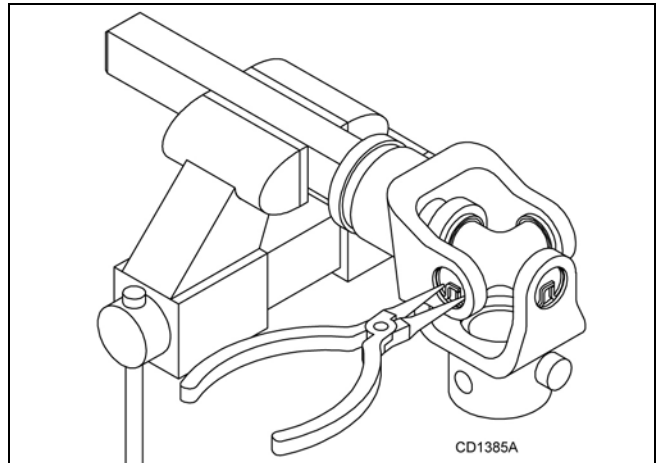

Figure 25. Remove Snap Ring
- Remove external snap rings from yokes in four locations as shown in Figure 25.